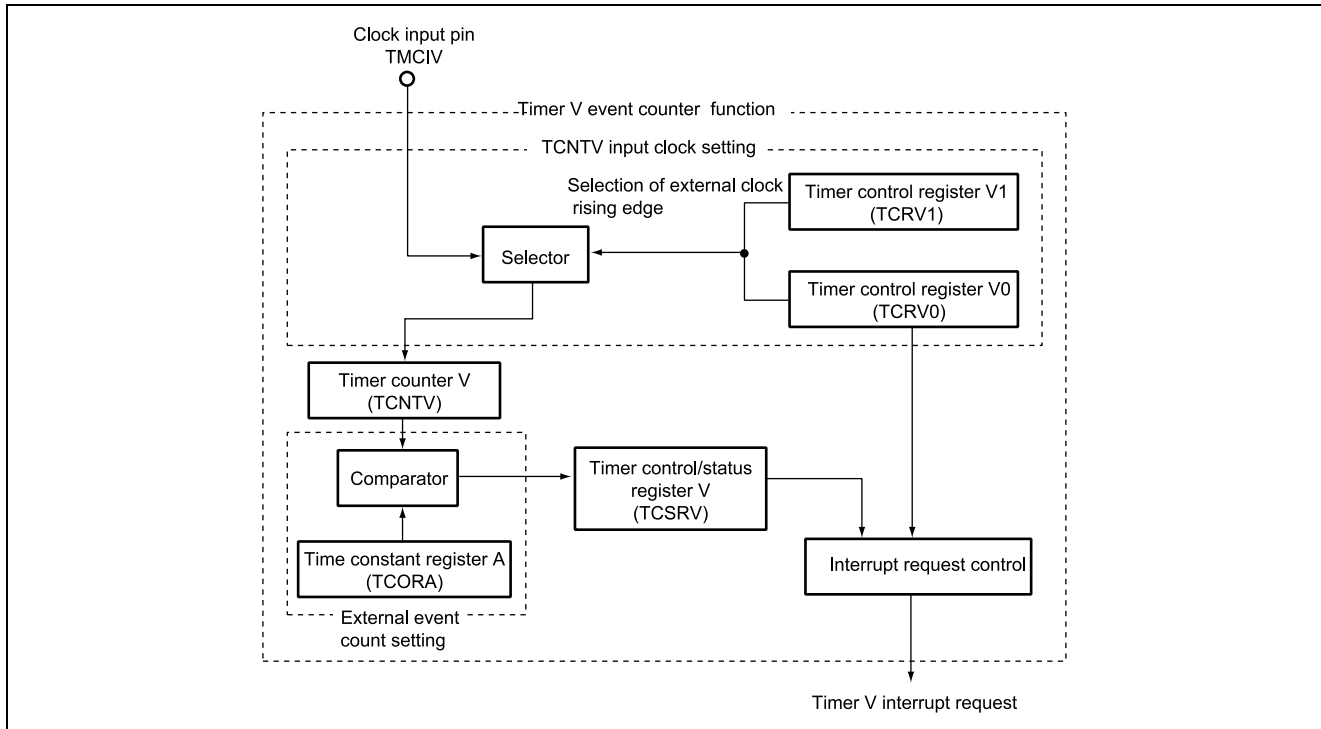

Figure 2.1 Block Diagram of Timer V
1. In this sample task, the 8-bit event counter function is used to count the number of pulses input from the TMCIV input pin. Figure 2.1 is a block diagram of the 8-bit event counter function of timer V. The elements in the block diagram are described below.